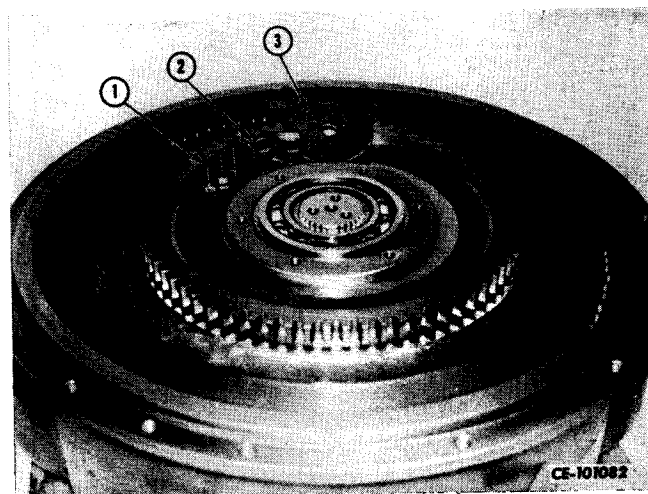

Figure 3-18
Remove cap screws (1, Fig. 3-18) and lock plate (2) that secure retaining washer (3) to output shaft. Remove retaining washer. Discard lock plate.